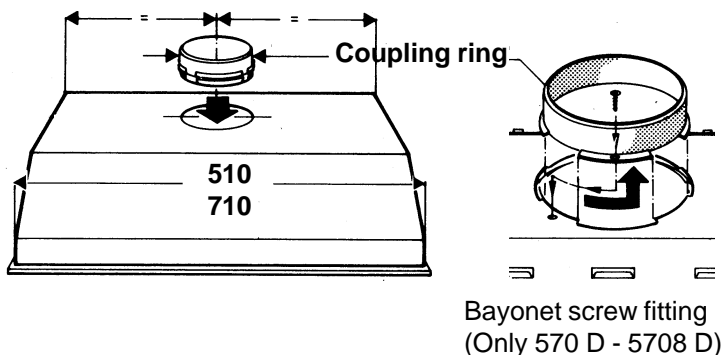

Fig. 1
- In this version fumes are extracted to the outside via a hose connected to the coupling ring. **Fig. 1.**